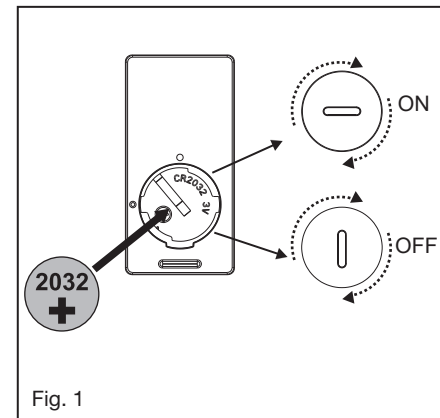

Fig. 1
Carefully lift fan motor assembly (without the blades) into position by hanging the motor assembly onto the hook from the ceiling mounting bracket allowing it to hang freely. (Fig. 1)
1. Insert the receiver into the motor housing with the flat side of the receiver facing the ceiling. (Fig. 1) For best performance, make sure the Black Antenna and WIFI Antenna, on the end of the receiver, remains extended and not tangled with any of the electrical wires.
- 2 While holding the LED light kit under your fan, make the polarize plug connections: (Fig. 1)
- 3 Place the key holes on the LED assembly over the 2 screws previously loosened, turn the light plate until it locks in place at the narrow section of the key holes. Secure by tightening the 2 screws previously loosened and the one previously removed. (Fig. 1)
- 1 Select a desired location. Use the wall plate to mark the location of the mounting holes. Plastic wall anchors or mounting screws are needed for this application. (Fig. 1)
Remove the panel from the transmitter and then install one 2032 battery (included). You need to use a coin to open or close the battery cover. To prevent damage to transmitter, remove the battery if not use for long periods of time (Fig. 1)